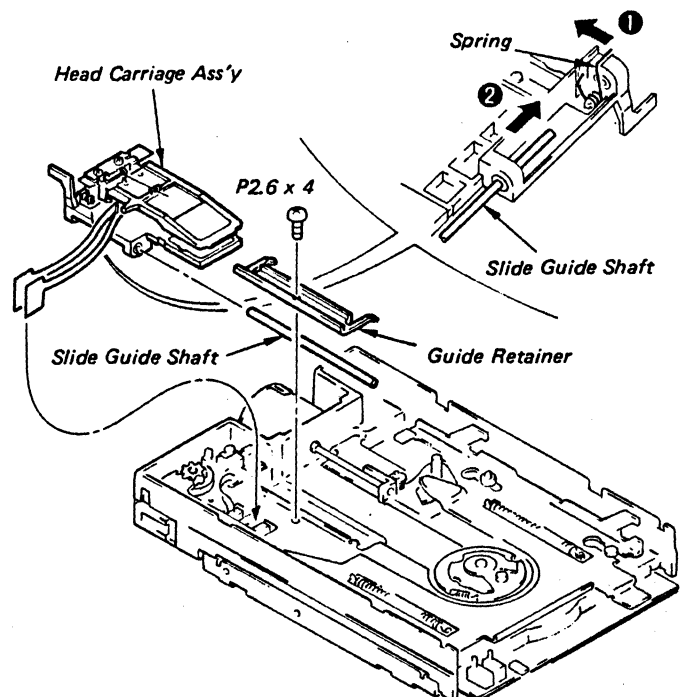

Fig. 4-9 Head Carriage Ass'y Replacement
- Remove the screw (P2.6x4) securing the Guide Retainer and then remove the Guide Retainer, Head Carriage Ass'y and Slide Guide Shaft. (Refer to Fig. 4-9)
Note: The spring of Head Carriage Ass'y, that is located in around shaft hole, should be installed inside so that the Guide Shaft is forced outwardly by the spring force, as shown in Fig. 4-9.